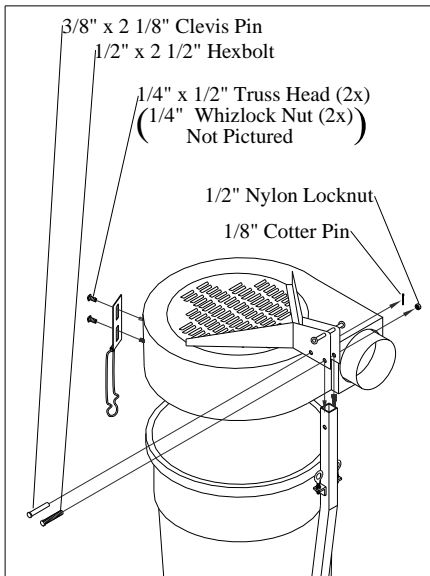

Fig. 4
4. Place container (21) in container frame. Install foam seal to molded top where container and top will make contact. Set top assembly on can with top support bracket astride the vertical upright. Align pivot hole on top support to hole on vertical upright, do not force fit this alignment, if holes do not line up, move vertical upright up or down on the frame (2) until proper alignment is achieved and tighten. Secure with 1/2" x 2 1/2" HHC and nylock nut. Tighten until slight drag can be felt when pivoting molded top. Pivot top up and attach springs (19) to eyebolts and spring retainers on top support. Lower top assembly to operating position and immediately slip clevis pin (20) thru locking pin hole on top support. Secure pin with 1/8" x 1" cotter key. Attach latch to molded top with 1/4" x 1/2" truss head bolt and 1/4" whizlock nuts. **Fig. 4**